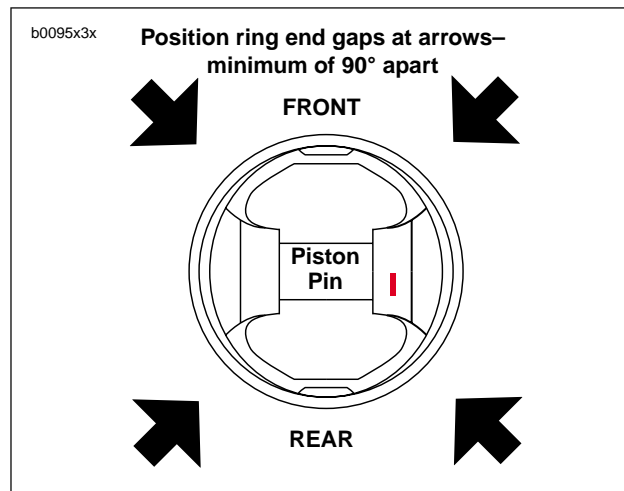

Figure 3-36. Ring End Gap Position
3. See Figure 3-36. Install rings so end gaps of adjacent rings are a minimum of 90° apart. Ring gaps are not to be within 10° of the thrust face centerline.
5. See Figure 3-36. Make sure the piston ring end gaps are properly positioned as shown.